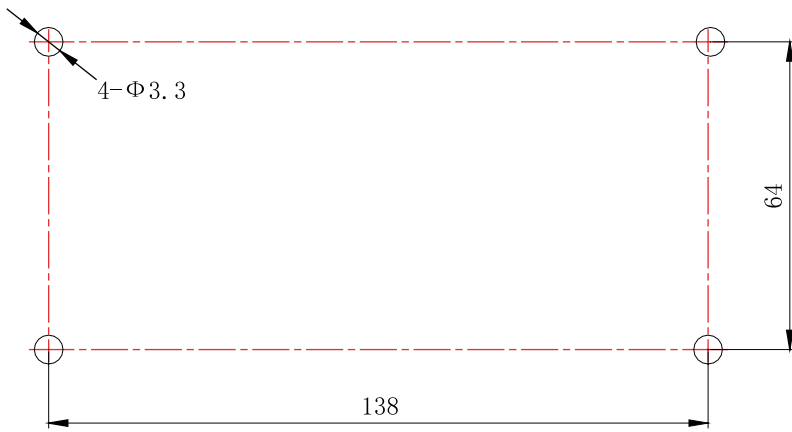

Figure 3-11 Installation Holes of the Electric Box Rear Cover
- 2) In case that the centralized controller is installed inside the control cabinet, dig 4 installation holes on the surface of the control cabinet according to fig.3-11.
- (3) In step ①, pull out the power core and communication cord, and then lead them separately from the wire orifice of the electric box rear cover. Never lead the cords through a same orifice.
- (4) In step ⑥ pull out the wire connecting the touch screen and controller's rear cover. Put the touch screen on a safe place.
- (5) In step ⑦, connect the communication cords to A3,B3 terminals, and connect the neutral wire and live wire to the N, L terminal; connect the ground wire to position on the electric box rear cover. Secure it with screw M4×12.
- (6) In step ⑧, locate the controller's rear cover onto the electric box rear cover with screw ST4.2×9.5 TC.
- (7) In step ⑨, connect the wire between touch screen and controller's rear cover